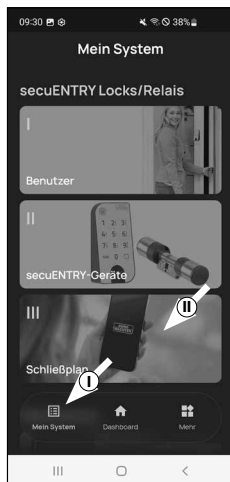

Fig. 1
- 2 Open the "My System" menu (I) (Fig. 1).
- 3 Tap on the fourth menu item "III - Locking plan" (Fig. 1).